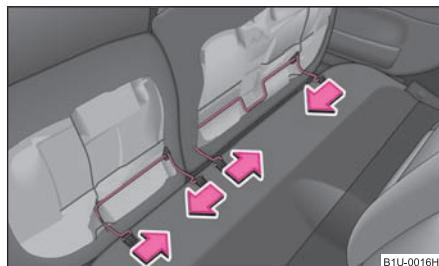

Fig. 62 Removing seat cushions ►
- Press the wire clamps in the direction of the arrow ⇒ fig. 62 and remove the seat cushion from its holder.